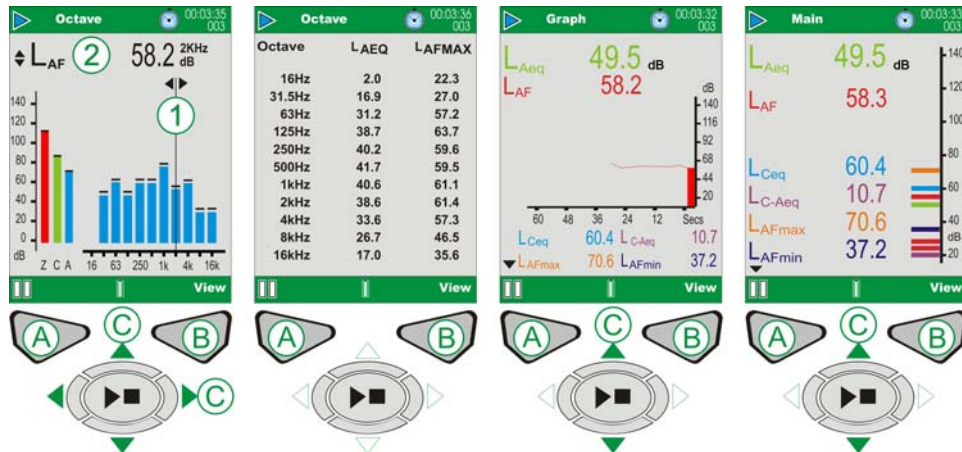

Figure 14 CEL-62XB & C Main Run Screens
CEL-62XB & CEL-62XC (Refer to Figure 14).
The CEL-62XB and CEL-62XC provides two additional octave screens shown in Figure 14. Press **View** (B) to toggle the four available screens. Use the **Left/Right** Cursor Keys (C) to move across the frequency bands (1) when in graphical view. Use the **Up/Down** Cursor Keys (C) to toggle between LMAX and LEQ parameters (2).